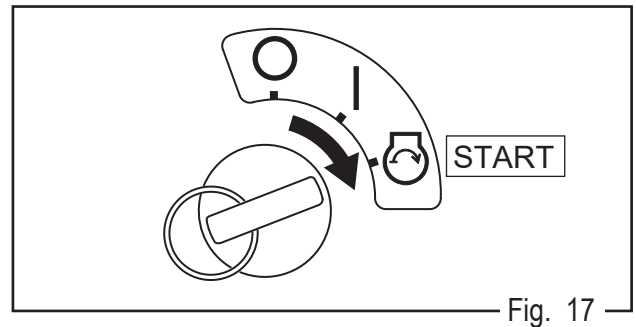

Fig. 17
c. Turn the key over to “Start”. Operate the cell starter to start the engine. After the engine starts gently take your hand off the key. (Fig. 17)